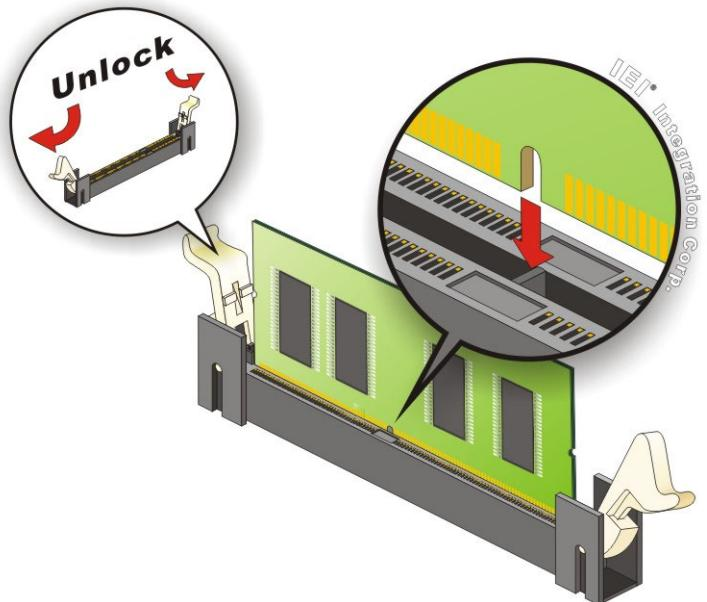

Figure 4-6: SO-DIMM Installation
To install a SO-DIMM, please follow the steps below and refer to **Figure 4-6**.
Step 1: Open the SO-DIMM socket handles. Open the two handles outwards as far as they can. See **Figure 4-6**.
Step 2: Align the SO-DIMM with the socket. Align the SO-DIMM so the notch on the memory lines up with the notch on the memory socket. See **Figure 4-6**.
Step 3: Insert the SO-DIMM. Once aligned, press down until the SO-DIMM is properly seated. Clip the two handles into place. See **Figure 4-6**.